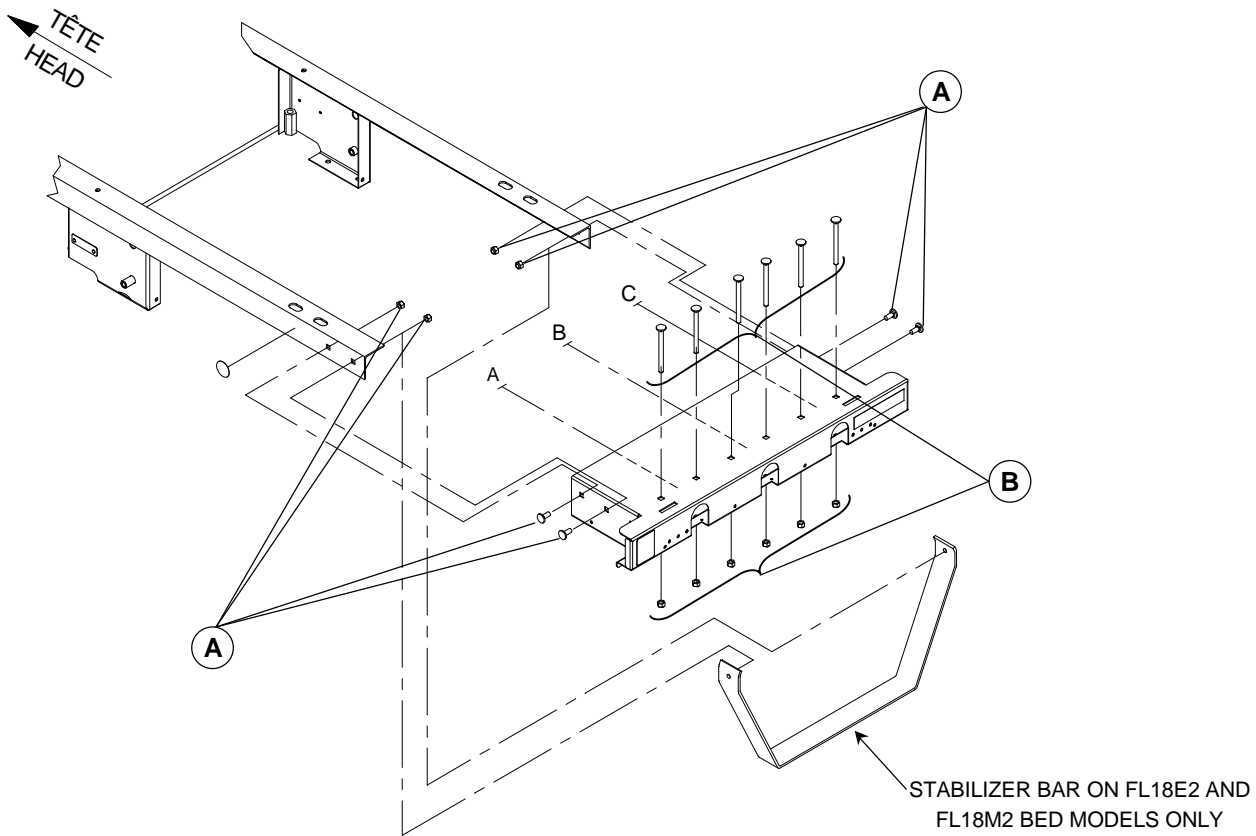

Figure 4.7
6. Remove the actuator assembly. Move the assembly toward the inside of the bed to remove it. The handle has to pass through the orifice (**H**) of the frame adjustable section. *Note: to ease the removal of the actuator on the **FL18M2** bed model, you may want to remove the stabilizer bar located at the head end of the bed (see section 4.7, step 9 and figure 4.7, page 47-48).*
6. Remove the actuator assembly. Move the assembly toward the inside of the bed to remove it. The handle has to pass through the orifice (**H**) of the frame adjustable section. *Note: to ease the removal of the actuator on the **FL18E2** bed model, you may want to remove the stabilizer bar located at the head end of the bed (see section 4.7, step 9 and figure 4.7, page 47-48).*